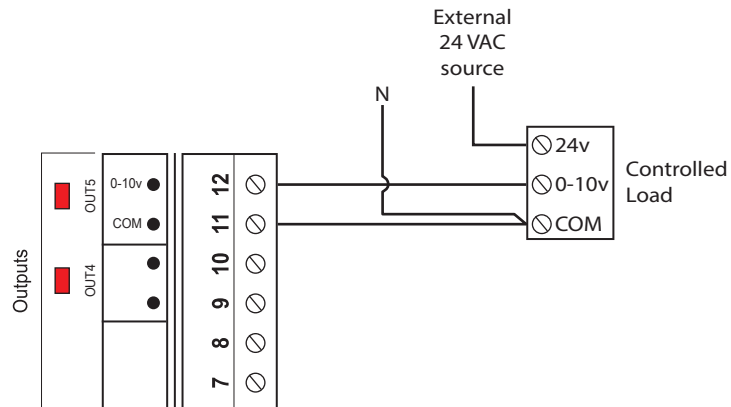

Figure 16 - Connecting the analog output (external power)
- 2) The C1000 only provides the control signal to the load, which is powered by an external source (see Figure 16)